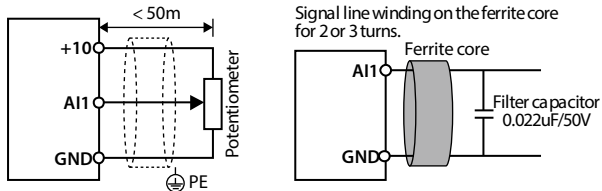
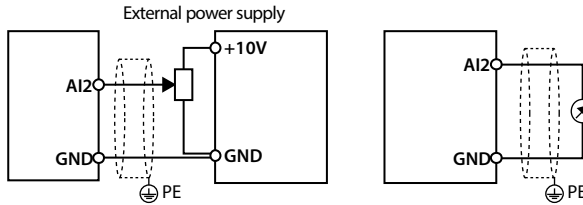
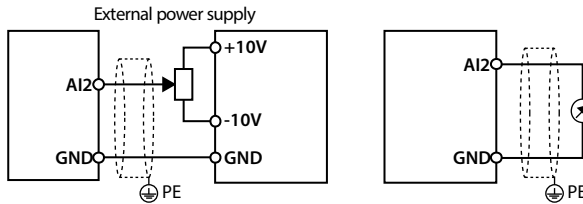

Figure 4-10 AI1 connection
Figure 4-11 AI2 connection (7.5 - 75kW)
Figure 4-12 AI2 connection (90 - 400kW)
The AI1 is voltage input and the range is 0 - 10V, as shown in Figure 4-10.
2. In serious interference occasions, the analogue input signal should add filter capacitor and ferrite core, as shown in Figure 4-10.
AI2 can be selected as voltage input and the range is 0 - 10V. When selecting internal +10V of HD3N, refer to Figure 4-10, selecting 10V external supply, refer to Figure 4-11.
AI2 can be selected as current input and the range is 0 - 20mA, refer to Figure 4-11.
AI2 are selected as voltage input and the range is -10 - +10V. When selecting internal +10V of HD3N, refer to Figure 4-10, selecting +/-10V external supply, refer to Figure 4-12.
AI2 are selected as current input and the range is 0 - 20mA, refer to Figure 4-12.